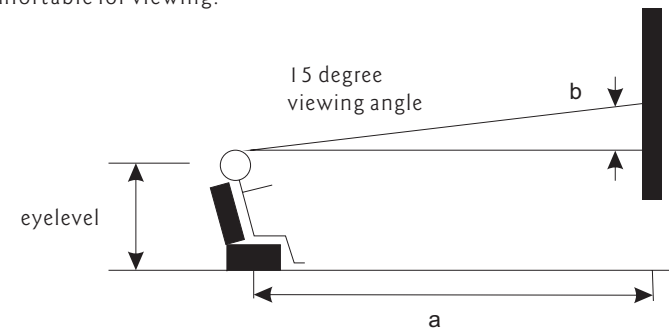

Fig 2a
1) the distance between wall and couch (Fig 2a).
2) the distance of eyelevel from ground level plus the distance measured from eyelevel of a person sitting on couch with viewing angle of 15° (Fig 2a).